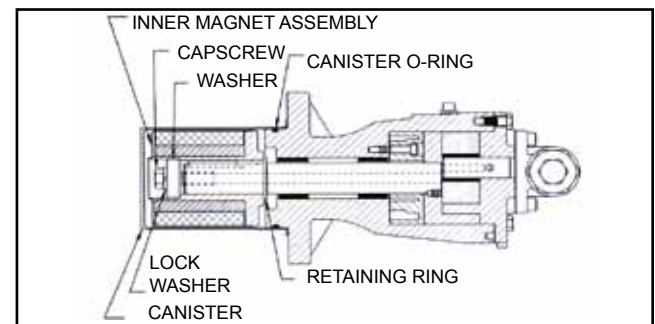

FIGURE 34
3. Install the external retaining ring and key on the pump shaft. Slide the inner magnet assembly onto the shaft so that it butts against the retaining ring. Install the washer, lock washer and capscrew to secure the magnet **See Figure 34**. Insert a brass bar through a port between two rotor teeth and tighten capscrew.